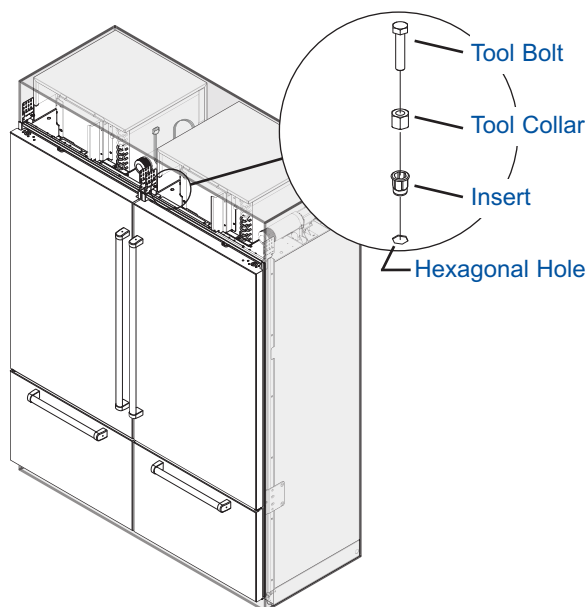

Figure 9. Threaded Insert Installation
- Screw the Thread Insert Installation Tool into a Threaded Insert, then position the Threaded Insert over one of the hexagonal shaped holes and tap the Threaded Insert into the hole (See Figure 9).